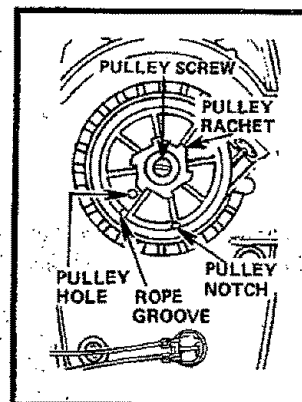

Figure 20
11. Remove screw and pulley very carefully. Figure 20. The recoil spring which lies beneath the pulley must stay in the housing, flat against the bottom. If the spring is disturbed, it will require considerable time and effort to reinstall. Twist the pulley gently clockwise  as you pull up to release the spring.
16. Wrap rope counterclockwise  around pulley ratchet and tuck loose end back under rope leaving a 1/4 to 1/2 inch tail laying in the rope groove. See insert, Figure 20.
18. Replace pulley in the housing. Be sure the pulley is all the way down and the spring is secured. Replace screw and tighten. Figure 20.